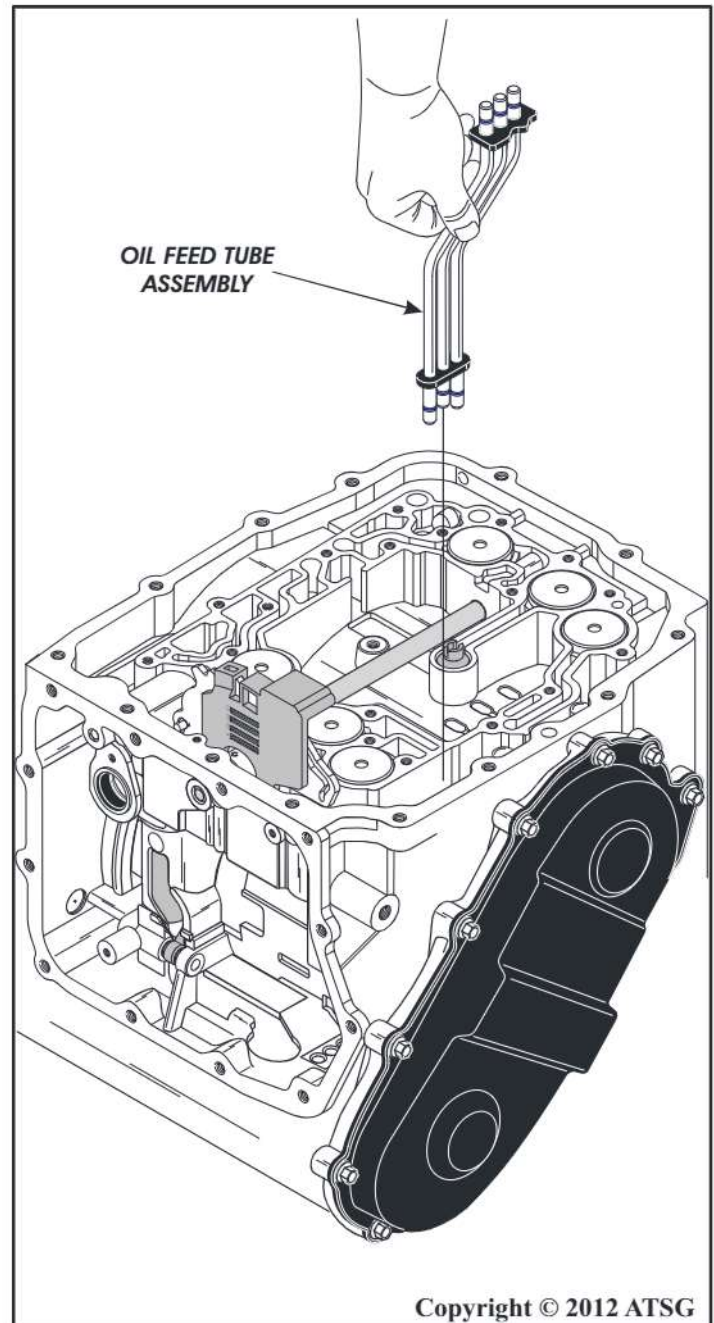

Figure 276
83. Install the assembled oil feed tubes through the case passage and into the low clutch housing, as shown in Figure 276.